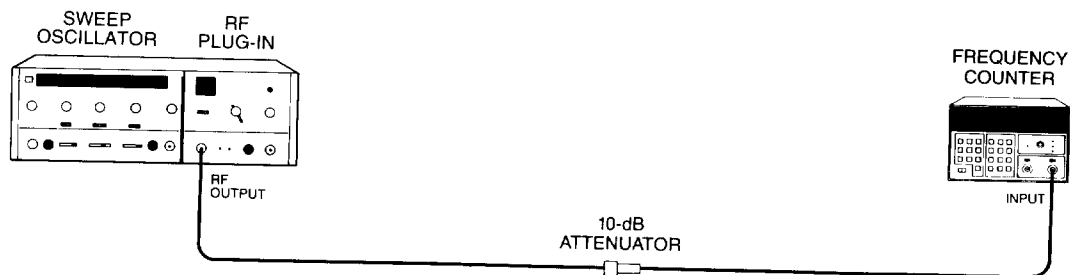

Figure 4-1. CW and Manual Sweep Accuracy Test Setup
**Equipment listed is for two test setups (Figure 4-1 and 4-2).**
- a. Connect equipment as shown in Figure 4-1.